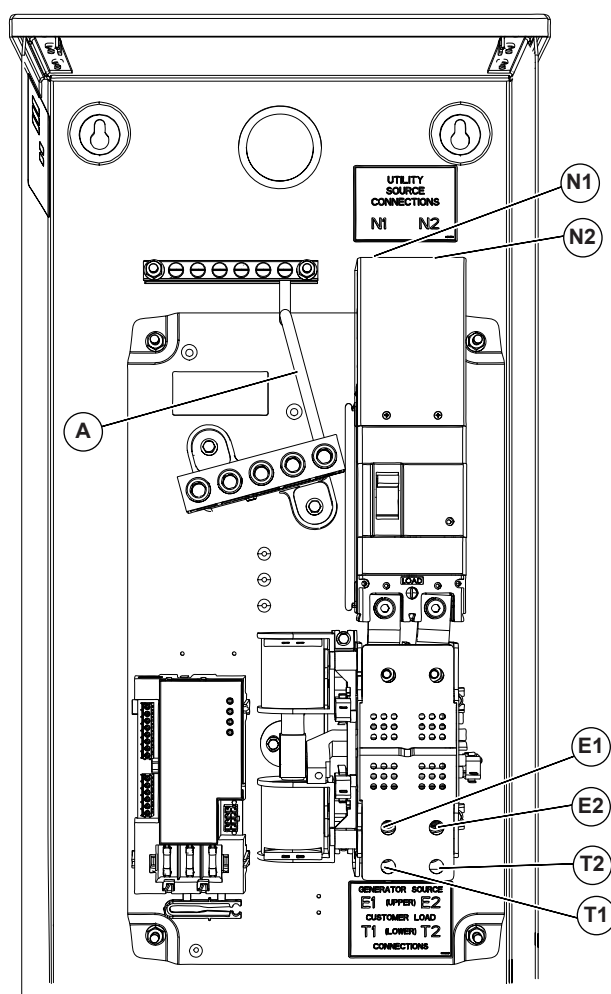

Figure 3-2. Wiring Connections
2. See Figure 3-2. Connect utility neutral and ground to Neutral and Ground terminals. Neutral and Ground terminals are bonded to each other with a jumper wire (A).